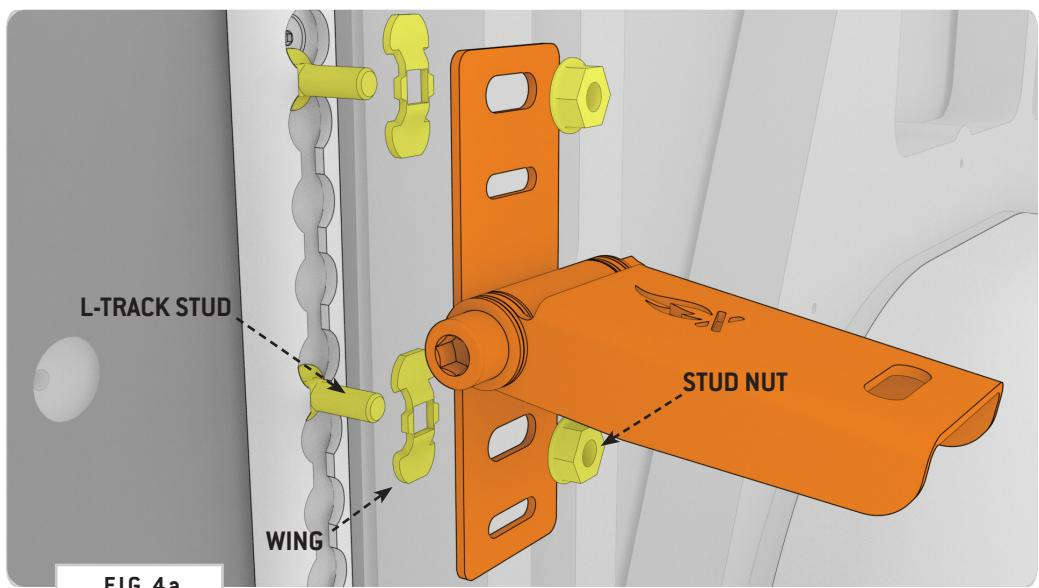

FIG 4a
**1.2a Attach Hinge Assemblies to L-Track:** Attach the Hinge Assemblies to the desired height along your L-Track using the included L-Track Studs (FIG 4a).